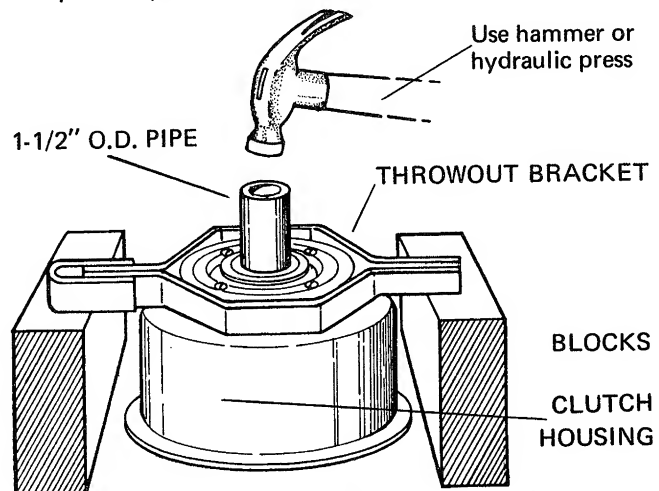

FIG. 18
13. The throwout bearing is a press fit over the pressure plate and may have to be driven or pressed out with a hydraulic press. (see Fig. 18)